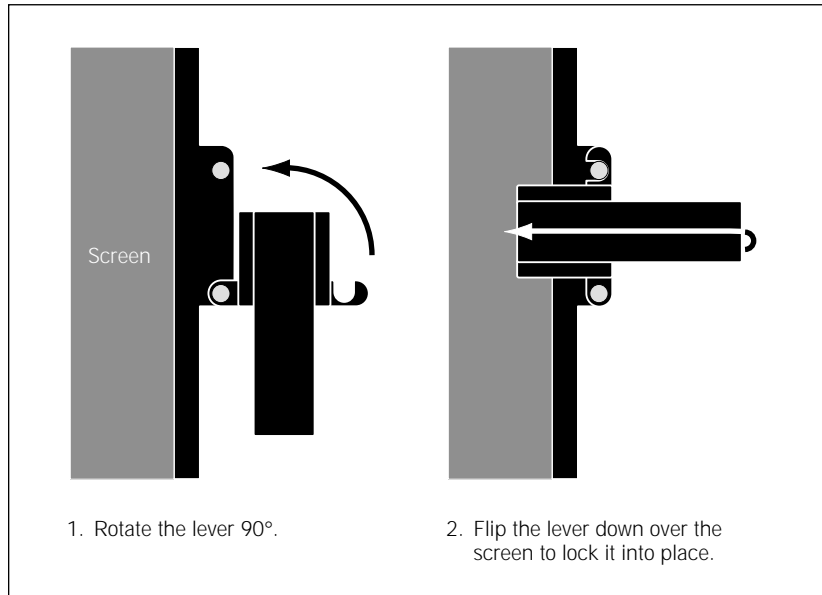

Figure 5-4. Closing the exposure cassette for mounted screens.
5. Close the exposure cassette by rotating each clamp counterclockwise until it stops at the pin (figure 5-4) and then flipping the lever over to lock the screen into place.